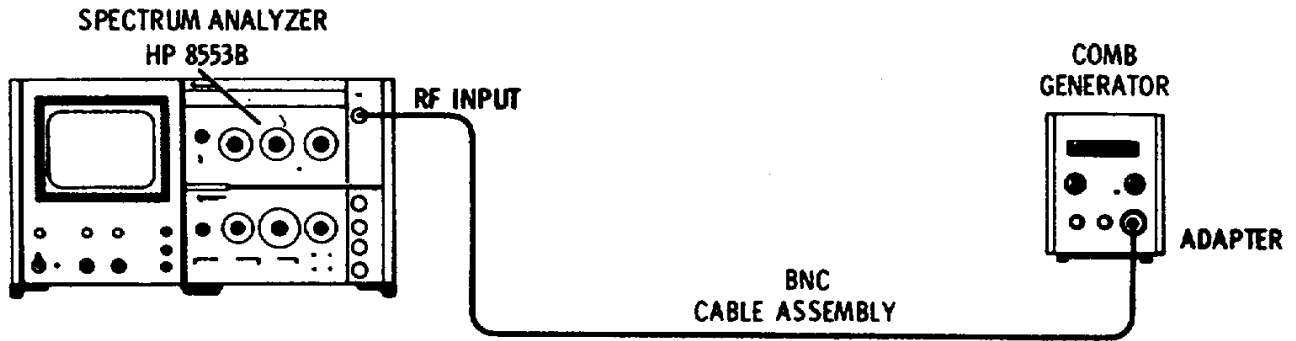

Figure 4-5. Scan Width Accuracy Test: 10 MHz/Div
1. Connect the test setup in Figure 4-5 and make the following control settings: